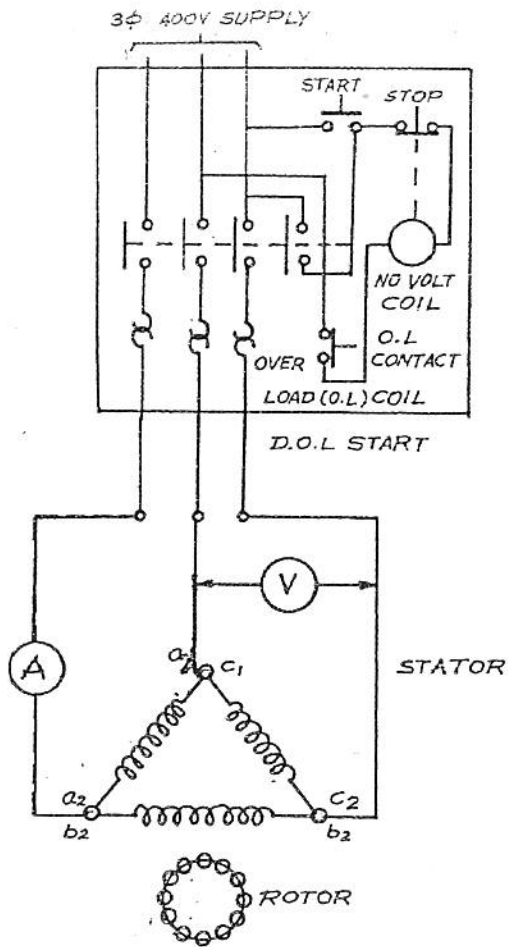

Fig. 1 : DOL Starter
- (b) Make connections as shown in fig. 1.
1. Make connections as shown either in fig. 1 or 2 or 3.
3. Change the phase sequence (in as many ways as possible) of the supply input to the motor by interchanging any two of the three supply terminals and note same readings as in procedure (2).